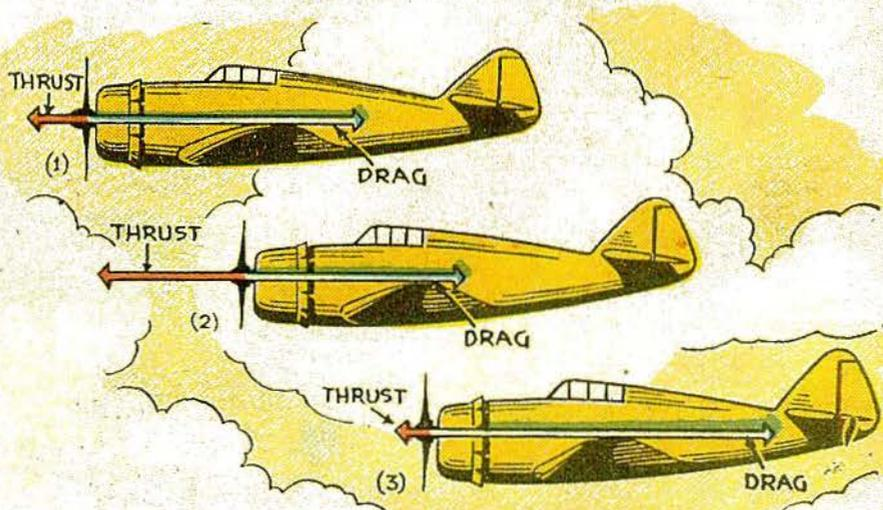

Fig. 30. RELATIONSHIP OF THRUST AND DRAG
If a body is observed to be moving with constant velocity, that is a positive indication that there are no unbalanced forces acting on it. Now, if an airplane is in motion at a certain speed (see Fig. 30) and the forward-acting force of thrust is just equal to the backward-acting force of the total drag, (wing drag plus parasite drag), then there will be no acceleration and the velocity will remain constant.
If the thrust is increased, as in Fig. 30 (2), so that it is greater than the drag, there will be an unbalanced forward force. The drag will balance or counteract only part of the thrust, and the excess thrust will cause a forward acceleration and hence increase in velocity. As velocity increases, the drag increases, since drag varies as the square of the velocity. As soon as the drag has increased till its force is equal to the thrust, there will be a balance, and with balanced forces, there can be no acceleration.
If the thrust is decreased so that the drag is greater than the thrust, there will be an unbalanced backward force as in Fig. 30 (3). This will slow down the airplane, decreasing the velocity and causing a decrease in the drag. When the drag force has decreased until it is equal to the lesser thrust force, once more there is a balance of forces; so